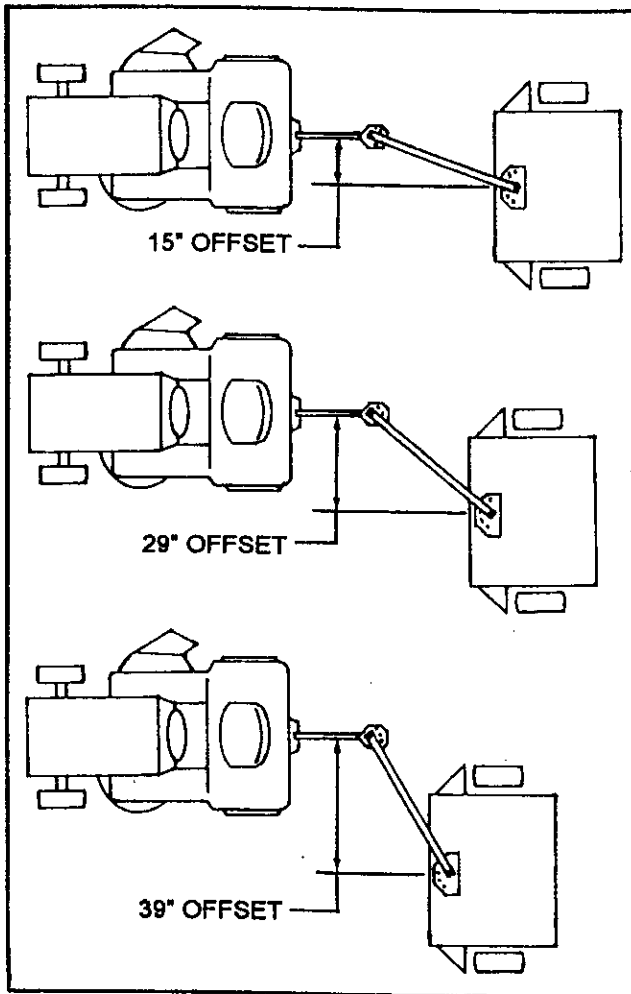

FIG. 5
- The adjustable tow hitch of this mower can be set in the straight position or to either side in one of three offset positions, 15°, 29°, and 39°. (See Fig. 5)